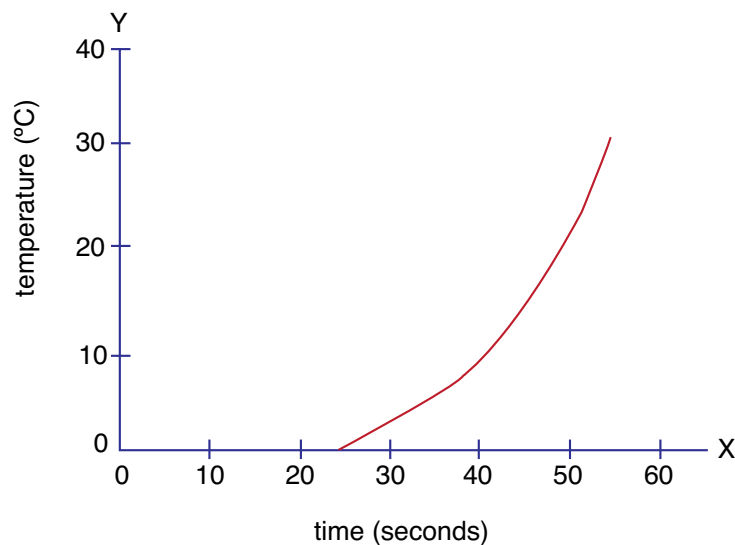

Figure 7
6. Graphs will vary but will most likely be similar to the one in Figure 7.